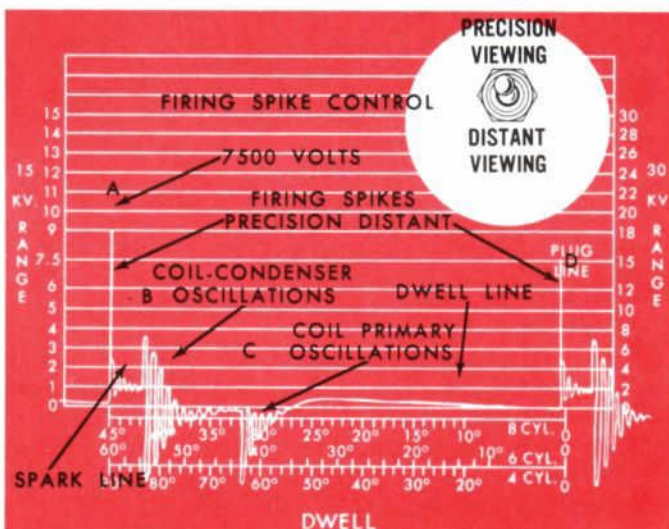

Figure 24—15-KV Parade Expanded To One Cylinder
3. Adjust the PARADE and EXPAND controls so that one cylinder pattern fills the grid screen (Figure 24). This is an *expanded* parade pattern.